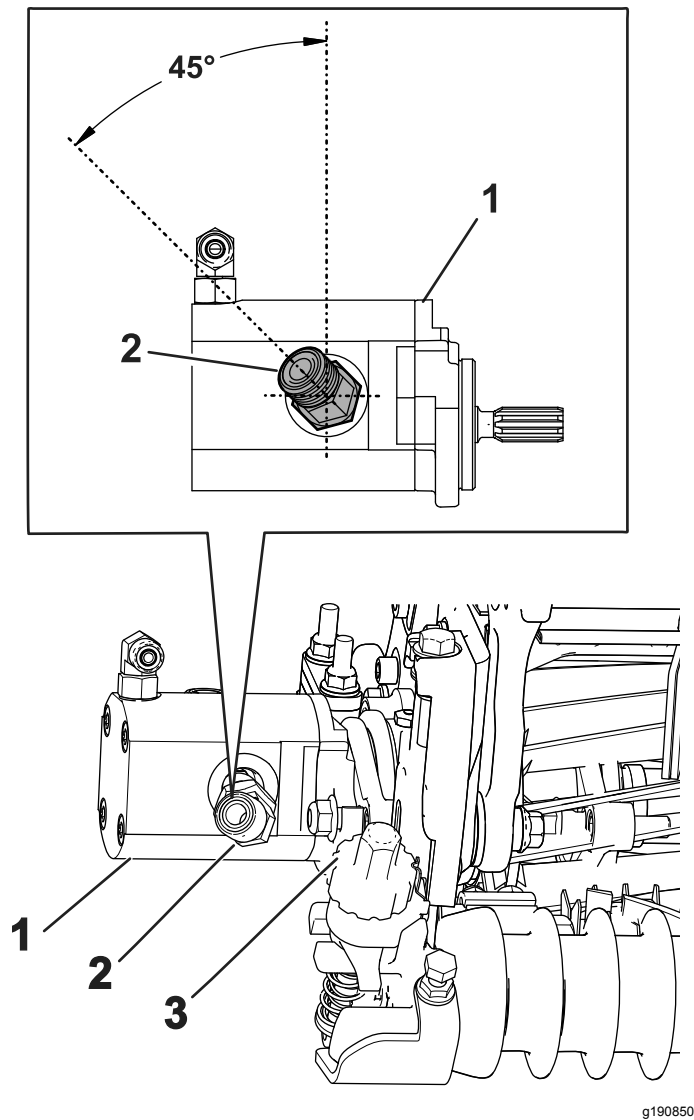

Figure 18
4. Install the new 45° fitting, positioning the fitting with the angle of the fitting as shown in Figure 18. Torque the fitting to 47 to 58 N·m (35 to 43 ft-lb).